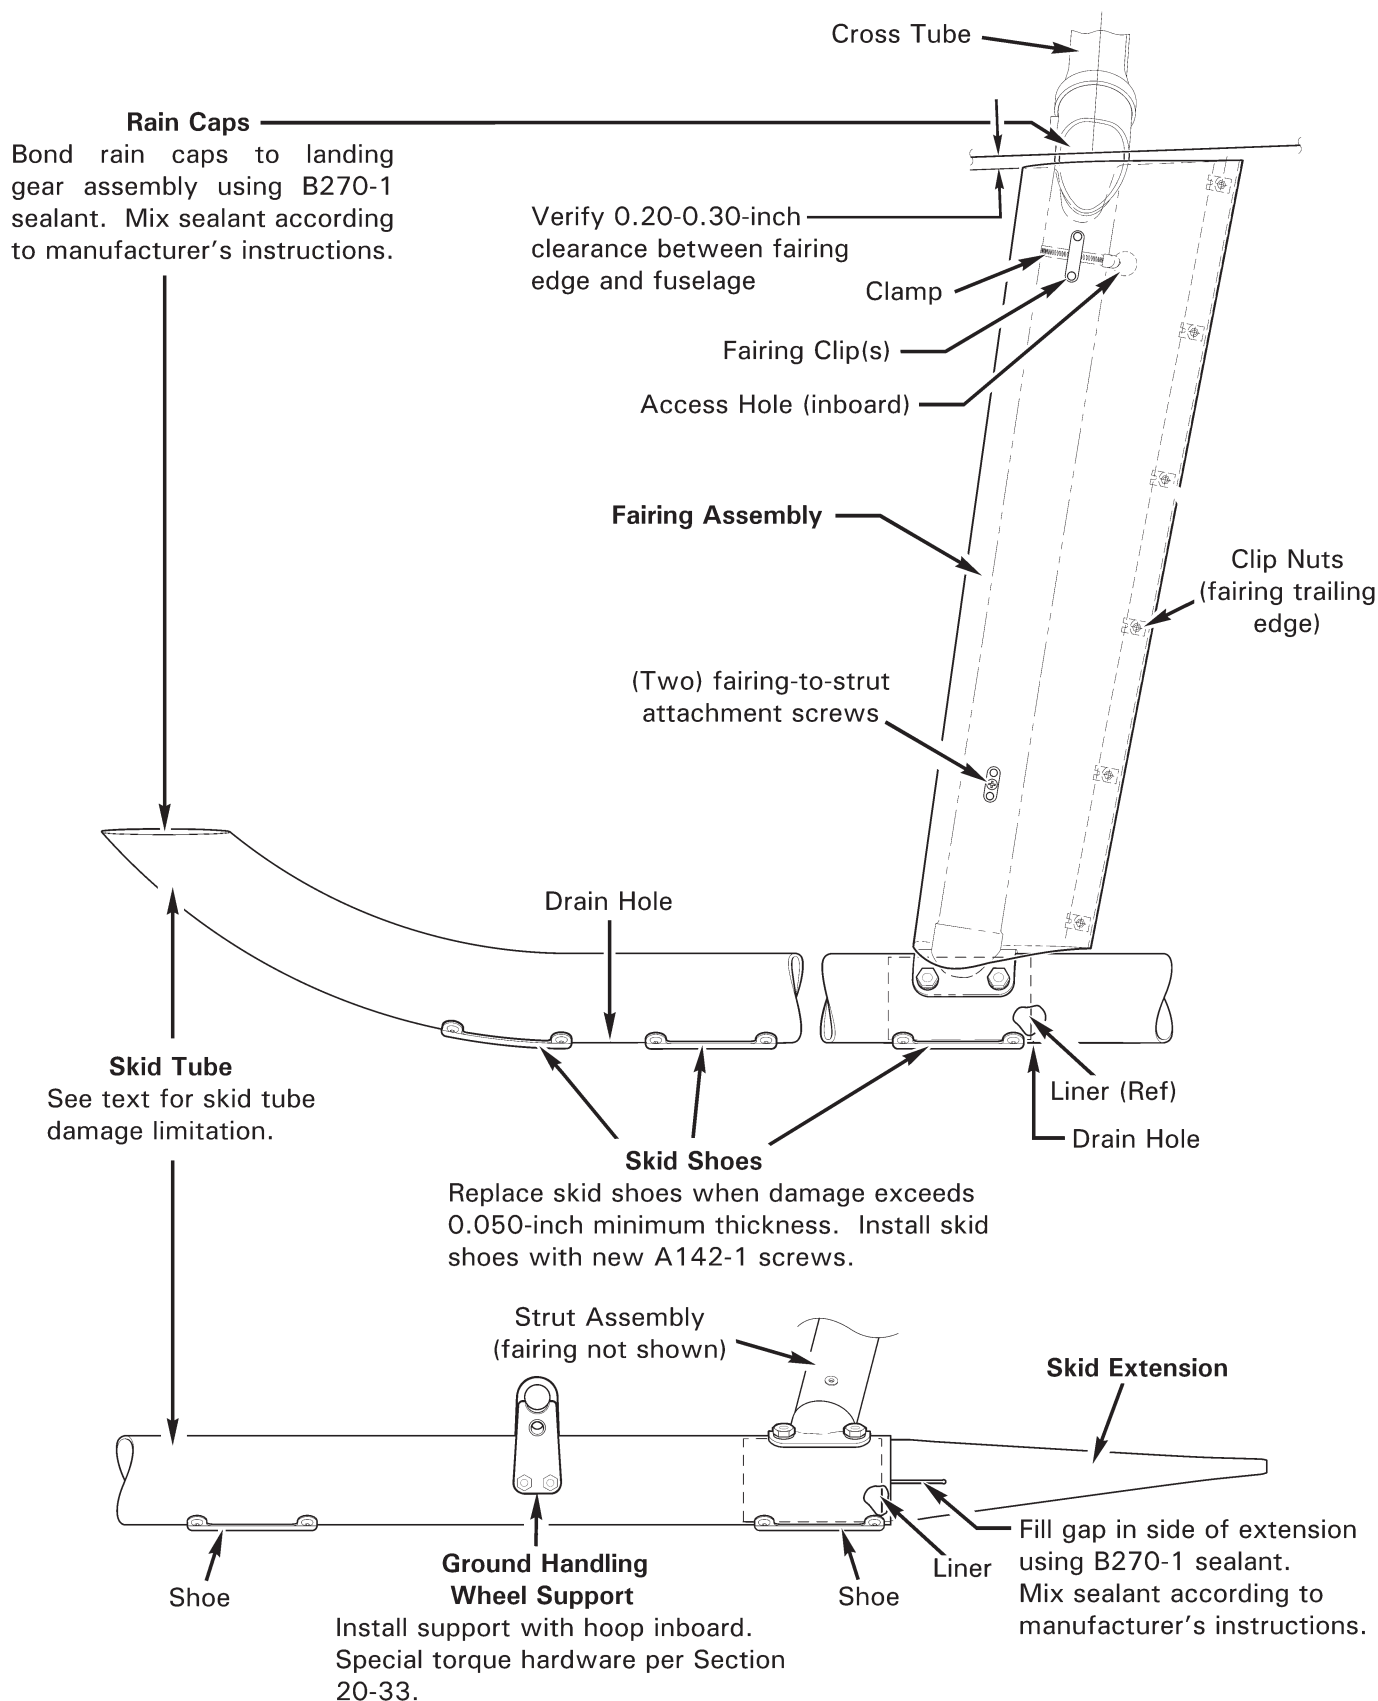

FIGURE 32-3 SKID TUBES AND FAIRINGS
2. Refer to Figure 32-3. Remove hardware securing left or right skid tube to same side strut assemblies.
2. Refer to Figure 32-3. Install hardware securing skid tube to strut assemblies. Standard torque bolts per Section 20-32 and torque stripe per Figure 5-1.
1. Refer to Figure 32-3. Remove and discard hardware securing skid shoe to skid tube. Discard a shoe damaged beyond limits in Section 32-30.
2. Refer to Figure 32-3. Remove and discard hardware securing aft skid shoe to skid tube. Remove skid extension.
1. Refer to Figure 32-3. Remove hardware securing support weldment to skid tube and remove support.
1. Refer to Figure 32-3. Remove screws securing fairing assembly together at trailing edge.
1. Refer to Figure 32-3. Verify fairing assembly clip nuts are installed. Verify clamp threads through fairing clips, with hex facing inboard access hole.
1. Refer to Figure 32-3. Verify drain holes in bottom of skid tubes are free of obstructions (two per skid, between two forward skid shoes and aft of skid shoe at forward strut assembly).